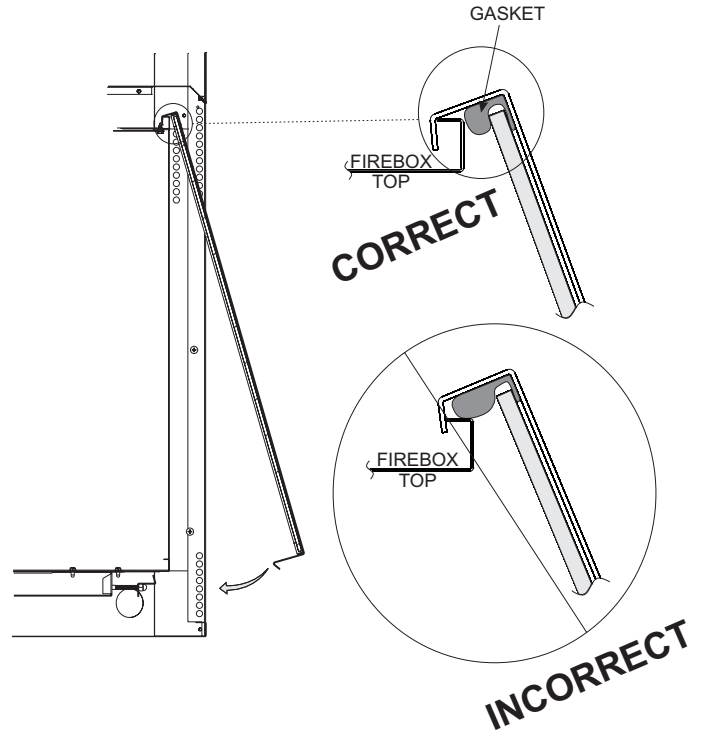

Figure 78
7. Reinstall glass front by hanging the top of the frame on top of the firebox, making sure the gasket at the top is positioned in front of the firebox flange and not on top **See Figure 78.**
1. When installing the glass door, make sure that the door top flange is hooked over the firebox top flange as illustrated in the "Correct" view in Figure 78.
Important: Do not allow the gasket across the top of the door to roll up on top of the firebox flange as shown in "Incorrect" view in Figure 78.